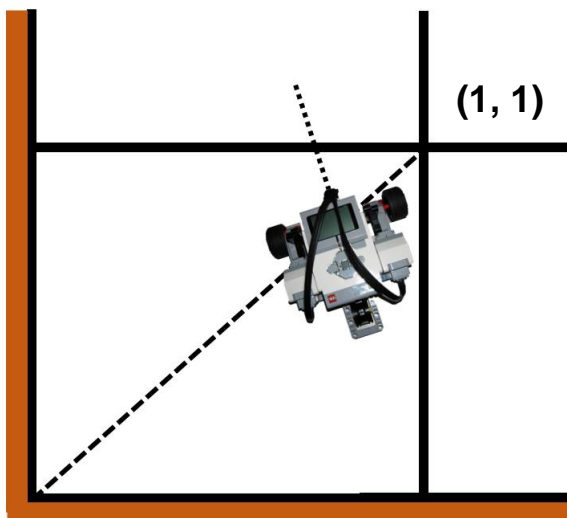
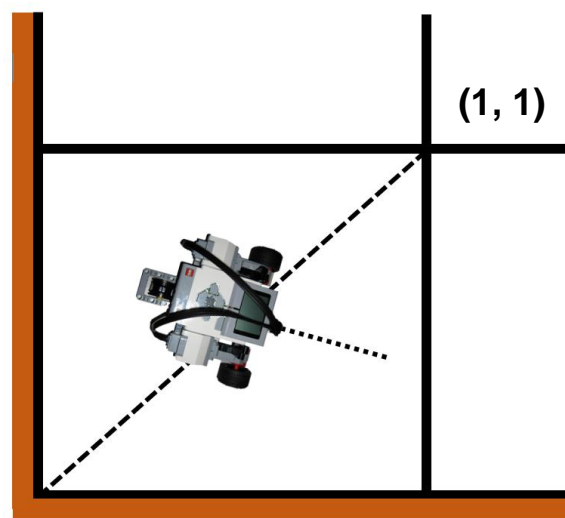

Figure 1. Robot's Starting Orientation A.
Figure 2. Robot's Starting Orientation B.
As shown in **Figure 1**, the robot is placed along the 45° line (thick dotted) inside the bottom-left tile of the 4x4 field grid. The **brown-colored** walls represent walls used for the **ultrasonic localization**. Please note that the robot could be placed in **ANY ORIENTATION** and **POSITION** along this 45° line. For example, **Figure 2** shows another orientation and position of the robot's starting position compared to that in **Figure 1**.
After the measurement is complete, the robot should then move to the (1, 1) point as shown in **Figure 1** and **Figure 2**. **Once light localization is performed at this point, two error quantities are measured by the TA: the Euclidean distance error  $\epsilon$  between the robot's actual position  $(X_F, Y_F)$  and the (1, 1) point, and the orientation error with respect to the 0° axis.**
1. Place the robot in a tile corner along the 45° line (**Figure 1**), where two walls are present.
1. **Do I need to implement my robot's localization routines using the same  $0^\circ$  axis shown in Figure 1 and Figure 2 (that is, along +y axis)?**